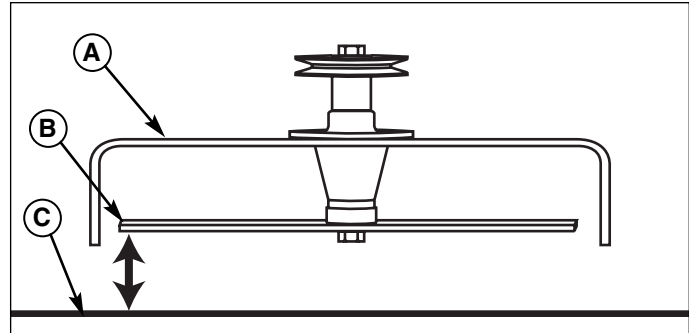

Figure 28. Measure Blade Tips to Ground
7. Measure the distance from the ground to the front tip of the foremost blade (left blade on 38" & 42" decks) and from the ground to the rear tip of the rear blade (Figures 28 & 30). The front tip of the foremost blade should be 1/4" (6mm) higher than the rear tip of the rear blade. If not, proceed with steps 8 - 9.